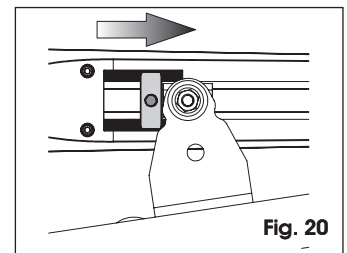

Fig. 20
- Move the mechanical stop until it is close to the front fitting, as indicated in figure 20.